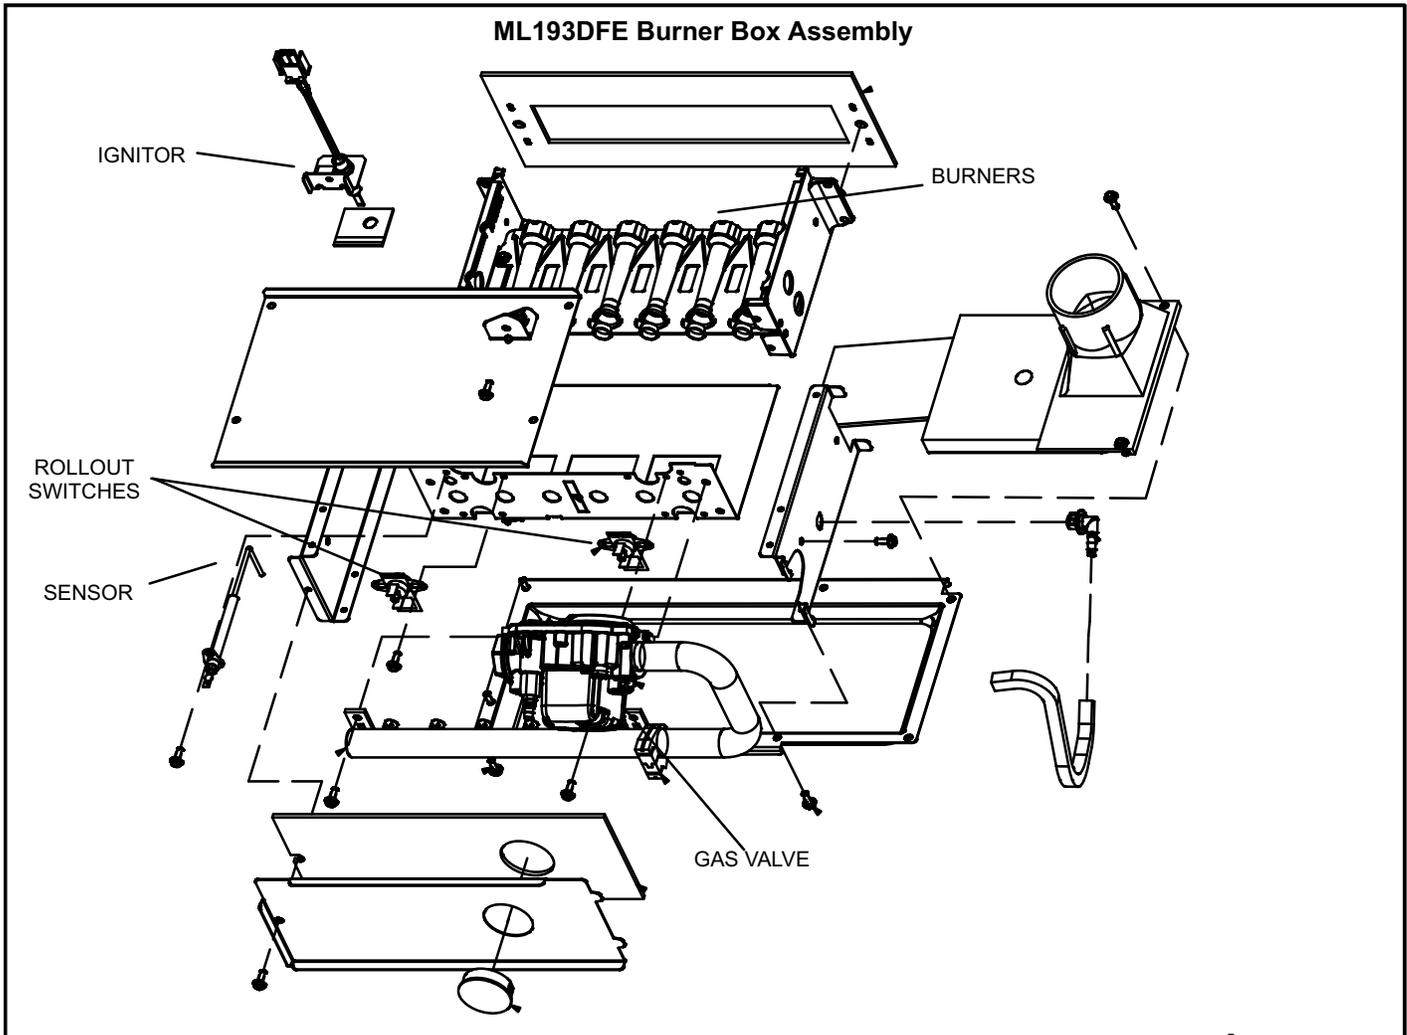

FIGURE 7
1. Flame Rollout Switches (Figure 7)
5. Flame Sensor (Figure 7)
6. Ignitor (Figure 7)